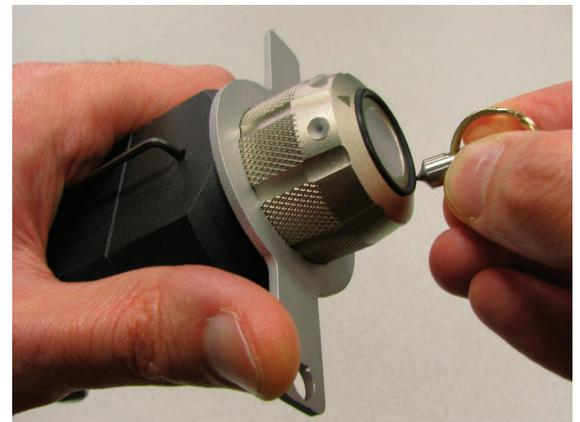

Figure 3: Unscrewing the Cap
6. While keeping the pin fully depressed, use the spanner wrench to provide torque to slightly rotate the cap counter-clockwise approximately 10 degrees. It is easiest to use one hand to apply pressure to both wrenches and the other hand to insert the pin. See Figure 3.